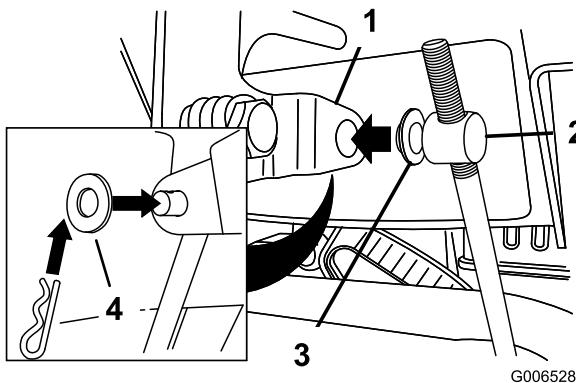

Figure 12
3. Remove the hairpin cotter and the outer washer from the trunnion on the upper end of the speed control rod (Figure 12).
Note: To make installation easier, leave the flat washer on the trunnion (Figure 12).
6. Lift up on the speed control rod and insert the trunnion into the hole in the speed selector lever (Figure 12).
- Disconnect the trunnion from the speed selector lever (Figure 12).
- Turn the trunnion downward (clockwise) on the speed control rod (Figure 12).
- Connect the trunnion to the speed selector lever (Figure 12).